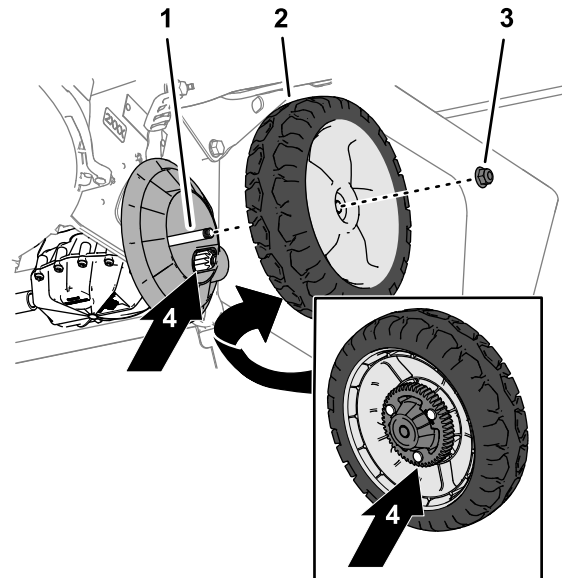

Figure 30
1. Remove the flange lock nut and wheel assembly from the axle bolt (Figure 30).
2. Clean any debris from the wheel-gear area (Figure 30).
3. After cleaning, apply a small amount of anti-seize compound to the gears (Figure 30).
4. Assemble the wheel assembly to the axle bolt with the flange lock nut (Figure 30).